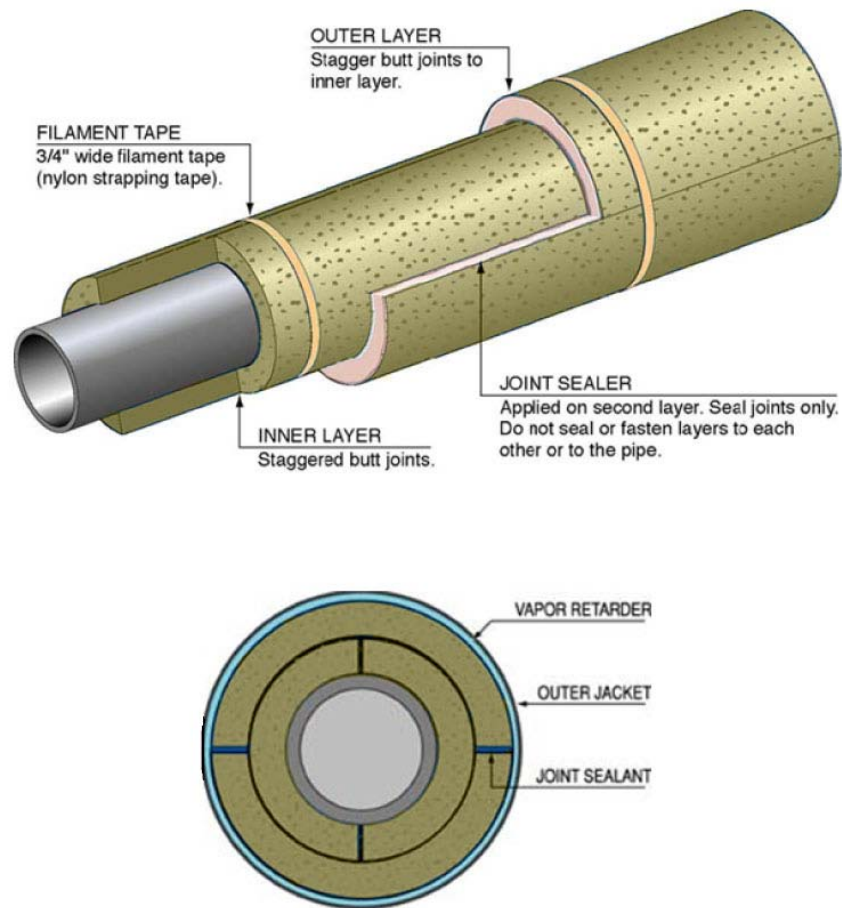

Figure 3 Detail Notes:
- 4.1.2 Where insulation thickness required is greater than 2 1/2", employ a double layer system. Stagger all longitudinal joints between the inner and outer layers. Install the inner and outer layer longitudinal joints 90° to each other with the inner layer joints in the 12 and 6 o'clock positions and the outer layer joints in the 3 and 9 o'clock positions. All butt joints between the inner and outer layers shall be staggered between 6 and 18 inches. Refer to Figure 3 in Appendix B.
- 4.1.7 Single layer insulation shall be applied to piping with all joints sealed full depth with joint sealant and spread to uniform thickness so that joints appear tight and uniform. Refer to Figure 8 in Appendix B. In double layer insulation system, inner layer shall not be installed with sealants. In double layer systems inner and outer layer shall remain independent of each other so as to allow movement between the layers. Refer to Figure 3 in appendix B.